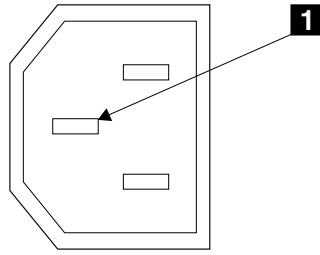

Figure 2. Ground pin
6. Check for continuity between the frame of the SAN Volume Controller and the ground pin **1** of each main power connector as shown in Figure 2.